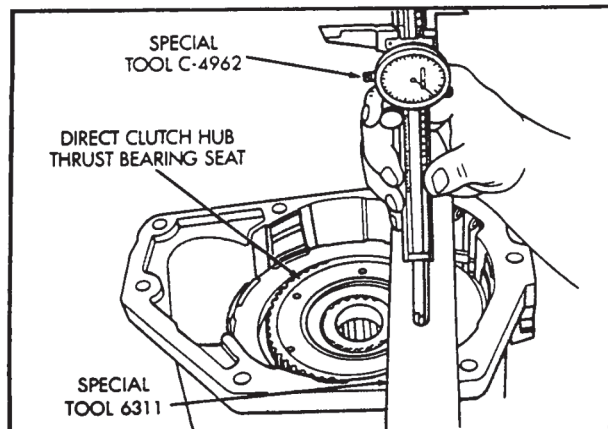

Figure 40
51. Place overdrive unit in vertical position and mount in vise, or on bench, with the appropriate size mounting hole cut into it. Be sure unit is facing upward for access to direct clutch hub, as shown in Figure 40.
59. Position Gauge Tool 6311 across face of the overdrive housing, shown in Figure 40. Then position dial caliper over the gauge tool (See Figure 40).